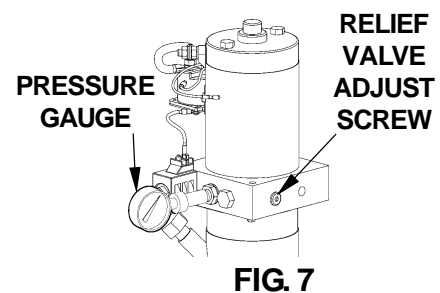

FIG. 7
9. With Platform on the ground, remove the pressure hose and fitting from the Pump and replace it with a 0-3000 PSI Pressure Gauge. Hold the Control switch in the "RAISE" position. Adjust the Relief Valve on the side of the Pump until the gauge shows 2800 to 3000 PSI (FIG. 7). Remove gauge and re-install pressure hose.